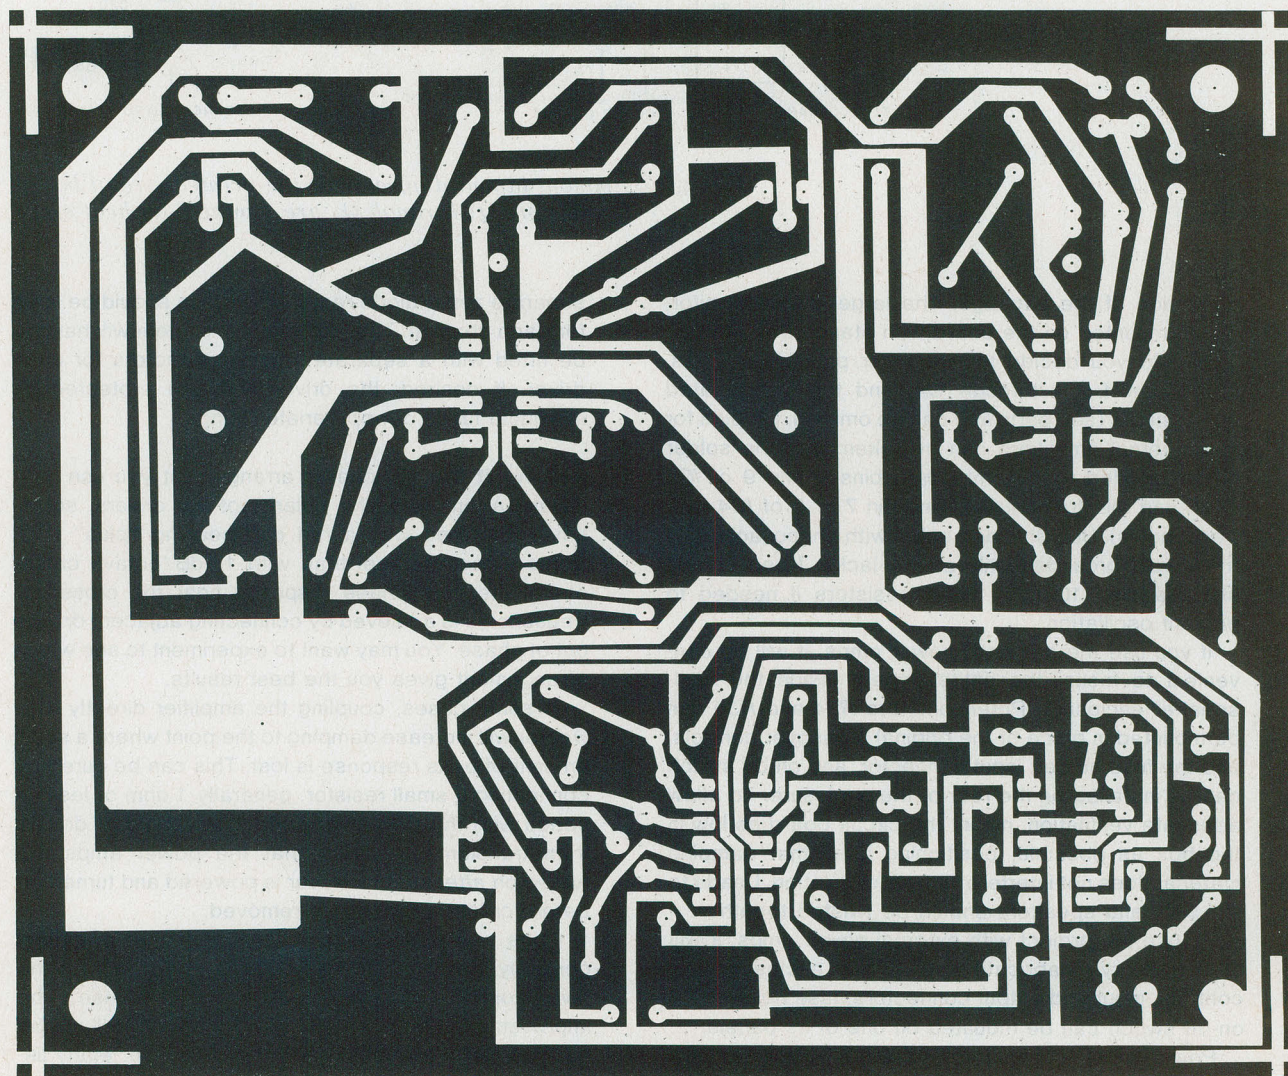
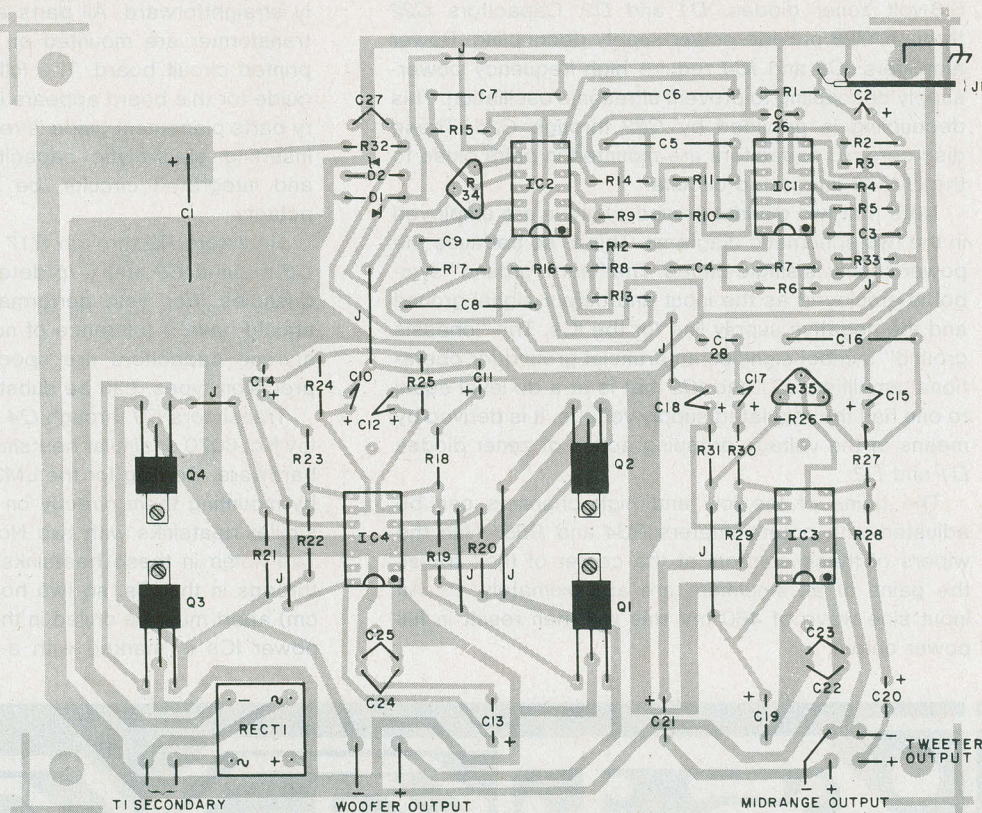

Fig. 3. Actual-size etching and drilling guide for printed circuit board.
Fig. 4. Component layout diagram for the printed circuit board. Transistors Q1 through Q4 are mounted on heat sinks.
**Construction.** The assembly of the project is relatively straightforward. All parts except the 24-volt power transformer are mounted on a single 5½-×-6½-inch printed circuit board. The full-size etching and drilling guide for this board appears in Fig. 3. A complementary parts placement guide is reproduced in Fig. 4. When inserting electrolytic capacitors, diodes, transistors and integrated circuits, be sure to observe proper polarity.